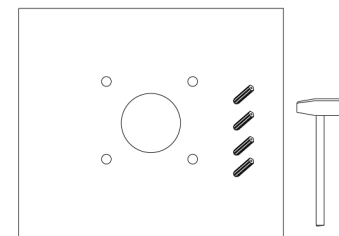

Figure 2-2
- 2.Fix rubber plugs into holes.(Figure 2-2)